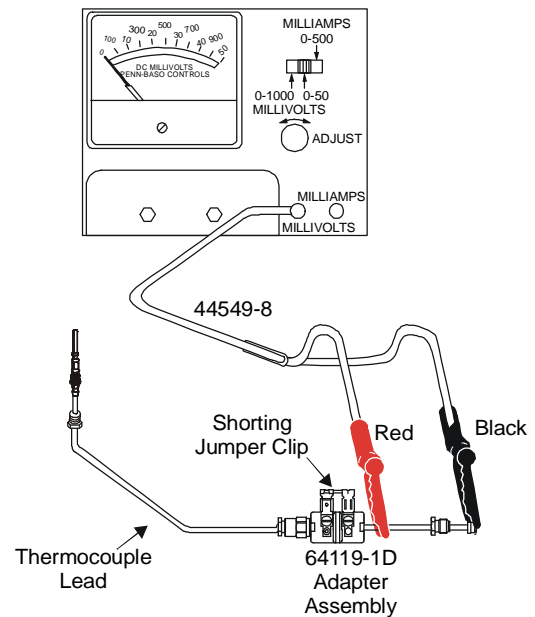

Figure 5: Fixed Load Millivolt Reading Connection Diagram
2. Attach the test cable lead 44549-8 to the adapter assembly. Connect the red clip to the copper tubing of the adapter assembly and the black clip to the control end of the adapter assembly (see Figure 5).